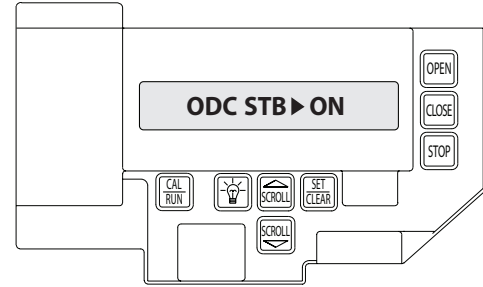

Figure 15
- 2) Press SCROLL  (up or down) until display reads "ODC STB>ON" or "ODC STB>OFF" **Figure 15.**